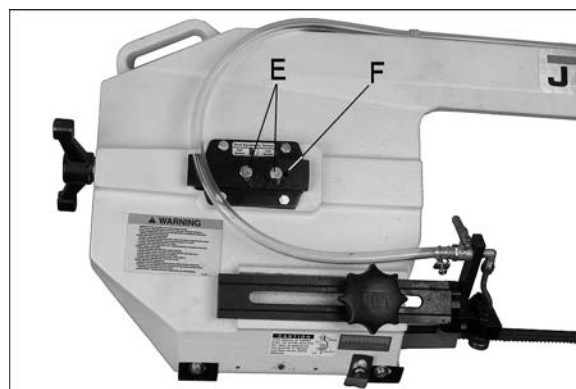

Figure 21
5. If blade will not track in position, loosen screws (E, Figure 21), but do not remove.
6. Turn set screw (F, Figure 21) counter-clockwise so that blade starts to move away from the flange; then immediately turn set screw in the other direction so that blade stops, then moves slowly back toward flange. NOTE: This adjustment is sensitive; do it gradually and in small increments allowing blade to respond to the changes.
- Tighten two screws (E, Figure 21).